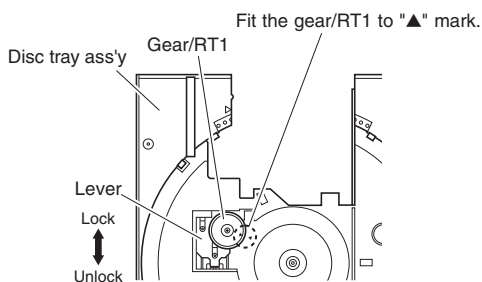

Fig. 4
- Slide the lever so that the gear/RT1 becomes free. (Fig. 4)
- With the "▲" mark on the gear/RT1 aligned with the same mark on the disc tray, lock it with the lever. (Fig. 4)